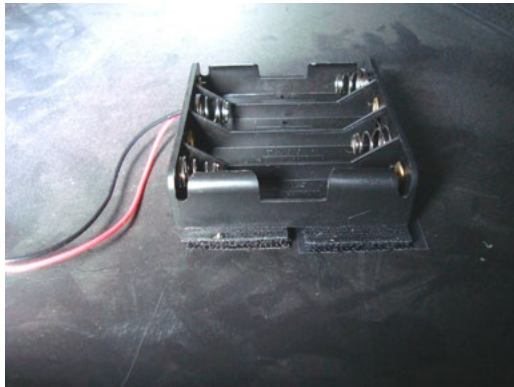

Figure 16 Battery holder
1. Secure the battery holder to the fireplace floor using the supplied velcro strips. See Figure 16.